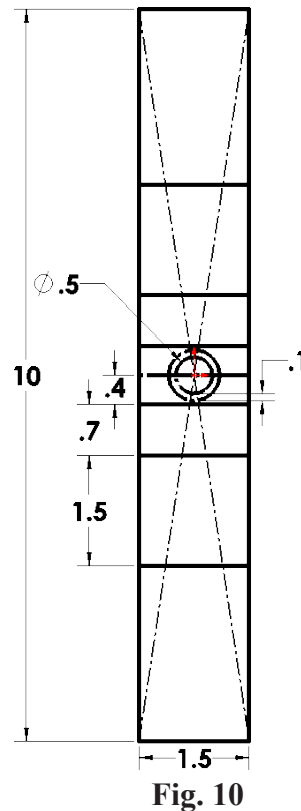

Fig. 10
Step 2. Click Mirror Entities  on the Sketch toolbar, Fig. 10.